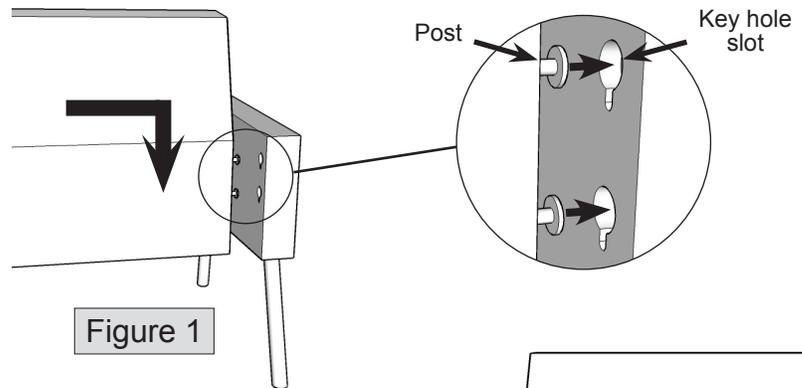

Figure 1
2. Attach back cushion to arm frame by inserting posts into key hole slots, as shown in figure 1. With posts fully inserted, press back cushion down until posts "bottom-out" in key hole slots.